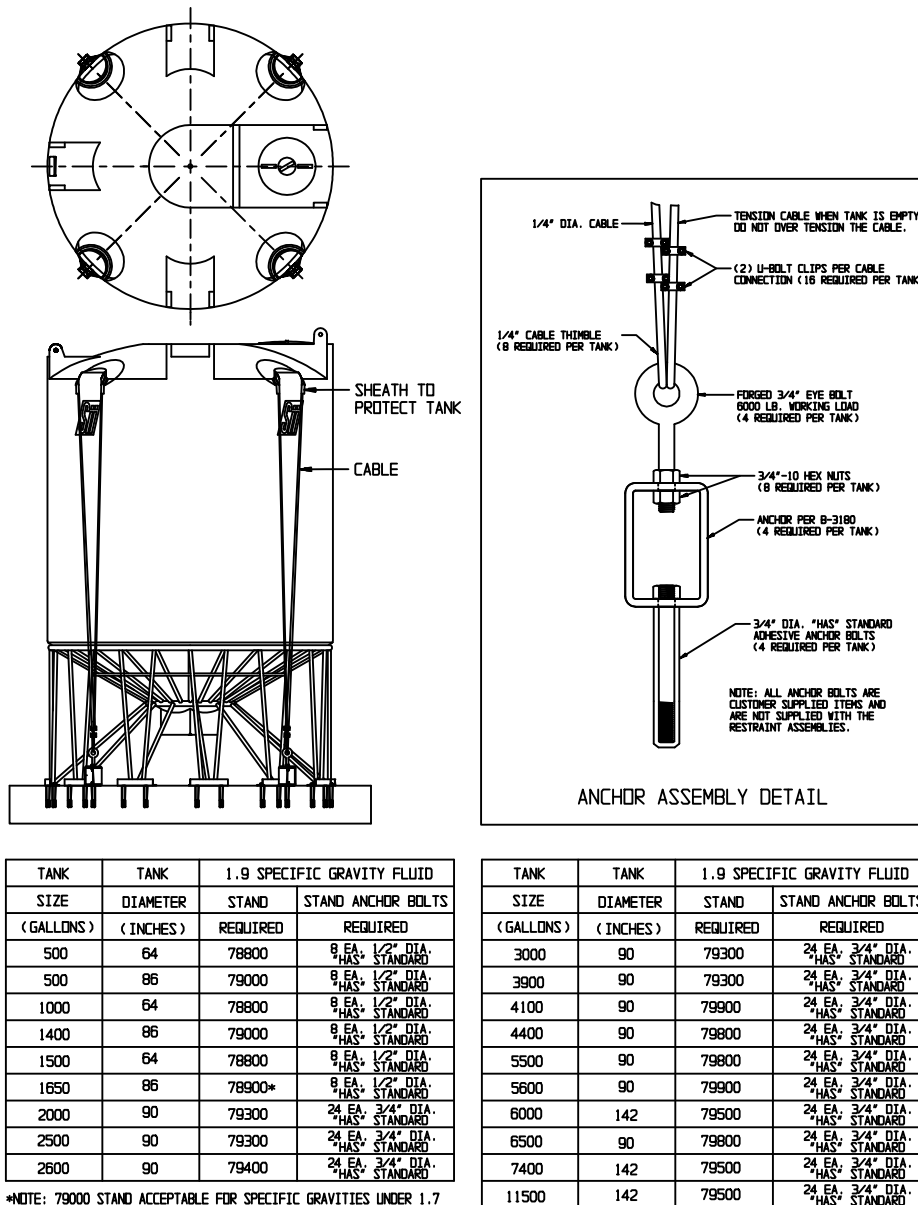

Figure 8.3
8.3.1 The wind/seismic tank restraint system is designed for cone bottom tank restraint on an appropriate concrete pad under 110 MPH wind or seismic zone 4 conditions using a SII cone stand for proper tank support. Using the assembly drawing and table shown in Figure 8.3, verify that all parts are present.